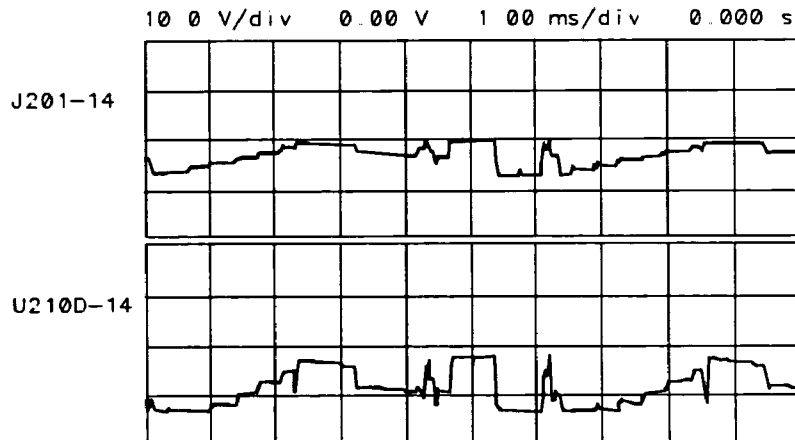

Figure 10-10. Delta Y Waveform
9. The waveforms should look like those illustrated in Figure 10-10. If the waveform at J201 pin 14 is bad, troubleshoot the Y Line Generator (Function Block I of A2 Controller Schematic, sheet 2 of 5).
4. The display should be similar to Figure 10-10 except that the untriggered trace should show at the left edge of the screen. In these settings, DEF1 causes switching between the line generators and the analog inputs (sweep and video). Refer to Function Block M of the A2 Controller Schematic, 2 of 5.